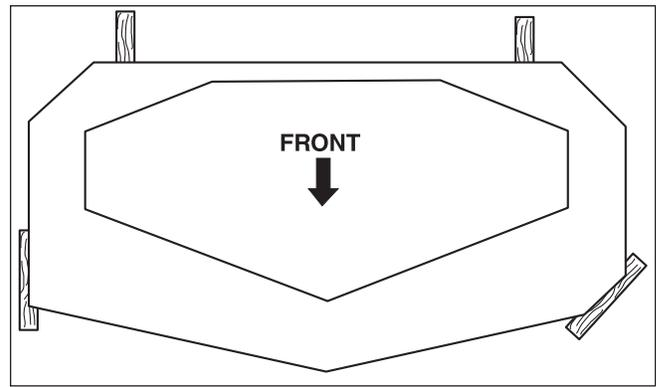

Figure 52. Block Positions
4. Block up the mower deck until all hanger chains are slack. See Figure 52.